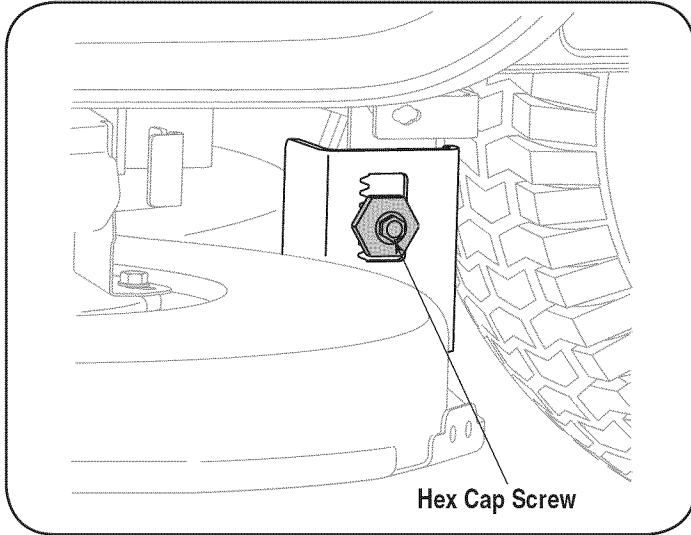

Figure 14
3. Loosen, but do NOT remove, the hex cap screw on the left deck hanger bracket. See Figure 14.